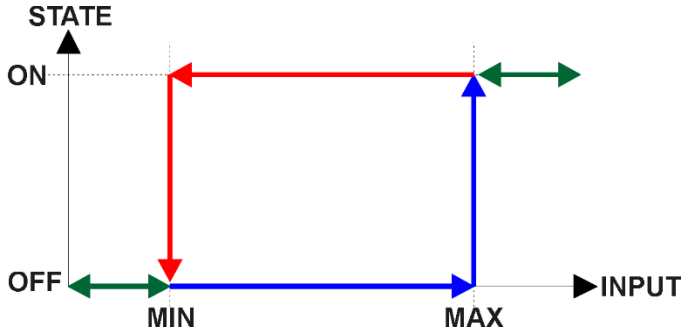

Figure 5 – Analog Input Reads as Digital
There is another type of 'digital' input that can be selected when 6112h is set to 20 = Analog On/Off. However, in this case, the input is still configured as an analog input, and therefore the objects from the Analog Input (AI) block are applied instead of those discussed above. The object 6000h is written as per the logic shown in Figure 5. In this case, the MIN parameter is set by object 7120h **AI Scaling 1 FV**, and the MAX is set by 7122h **AI Scaling 2 FV**. For all other operating modes, object 6000h will always be zero.